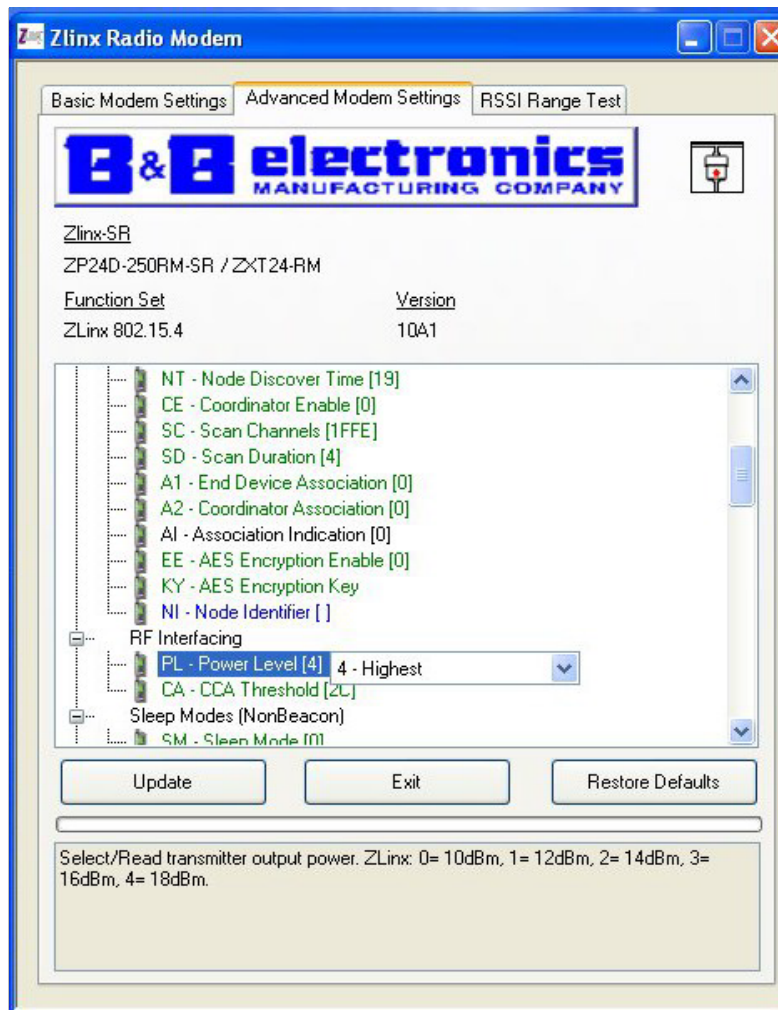

Figure 10. Zlinx Radio Modem, Advance Modem Settings
17. Click on the Advanced Modem Settings tab near the top of the window. The Advanced Modem Settings window will be displayed (Figure 10).
- In the Advanced Modem Settings window (Figure 10) still open, click on the Update button. The paired radio modem will be configured to match the previously configured radio modem. If more than one-pair of radio modems is being configured, label each matched pair of radio modems with the channel and baud rate settings they are configured with.
**NOTE** The Range Test is performed with two units in close proximity to each other. When performing this test, the manufacturer recommends the paired radio modems have their Power Level set to 0 - Lowest. See Figure 10, Zlinx Radio Modem, Advance Modem Settings. Remember to return the Power Level setting to 4 - Highest after performing this test.